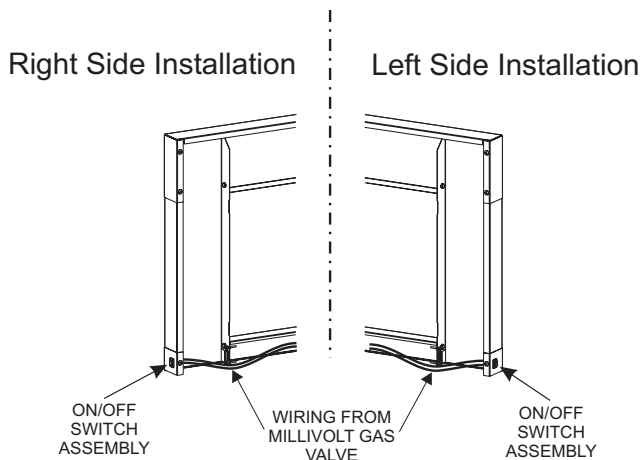

Figure 39
3. Run the low voltage alternate switch wires over to the right or left surround panel. Then secure the wires with wire clips provided. See Figure 39.
4. Remove the switch knockout on the side surround panel, then install the ON/OFF switch. See Figure 39.